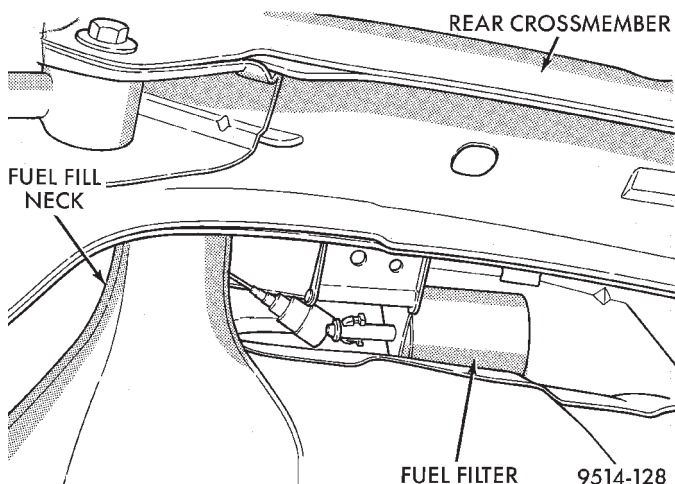

Fig. 17 Fuel Filter
(10) Disconnect fuel supply line from the fuel brake module.
(11) Remove fuel filter (Fig. 17).